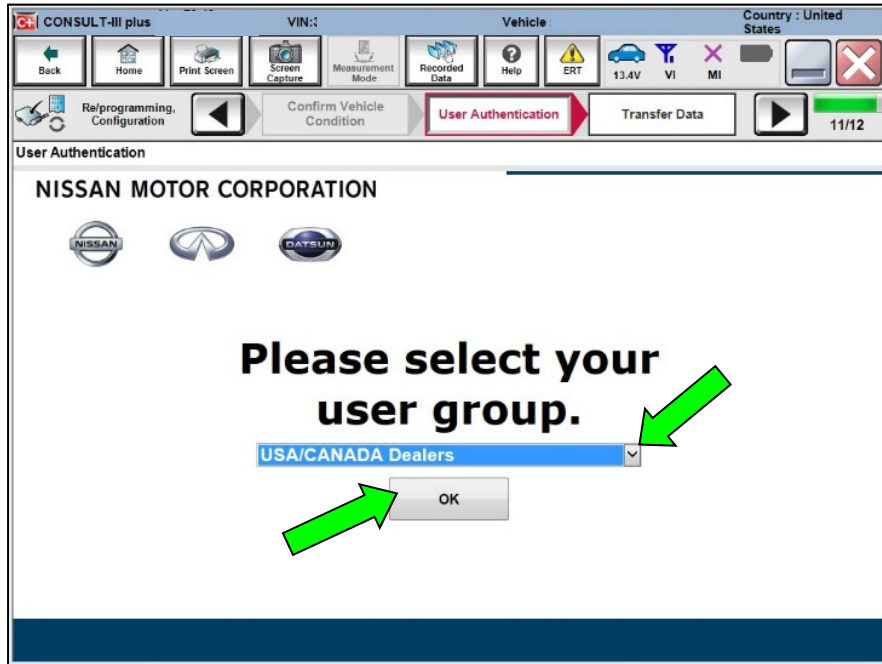

Figure 18
- Figure 18 may not display if the CONSULT PC has remained ON since the last reprogramming.